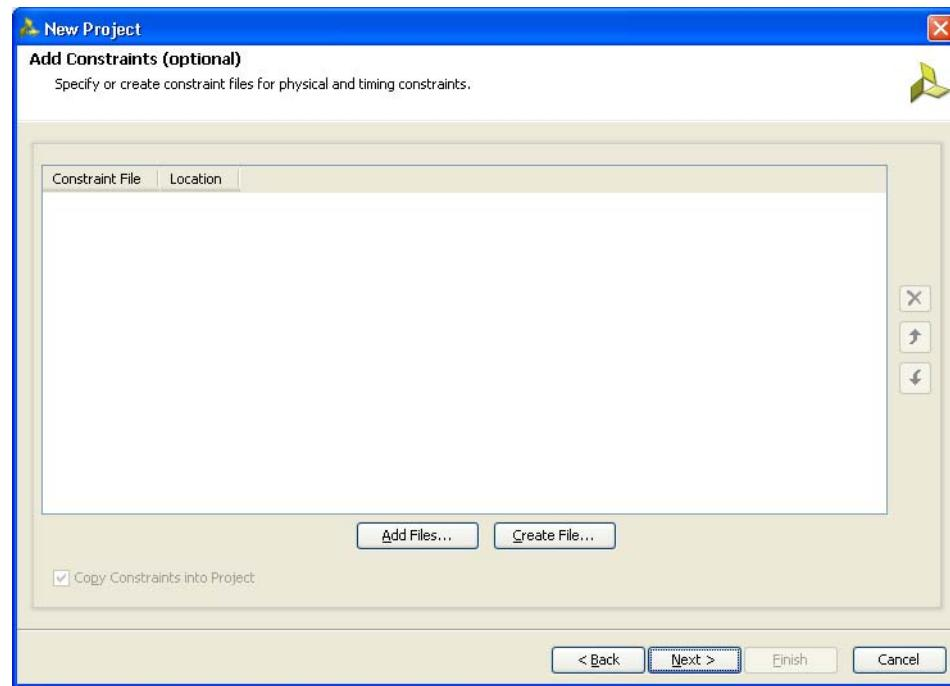

Figure 6-7: Add Constraints (Optional)
7. Click **Next** to bring up the Add Constraints (Optional) page (Figure 6-7). If the constraints file exists in the repository, it can be added to the project. Proceed to the next page if the constraints file does not exist.